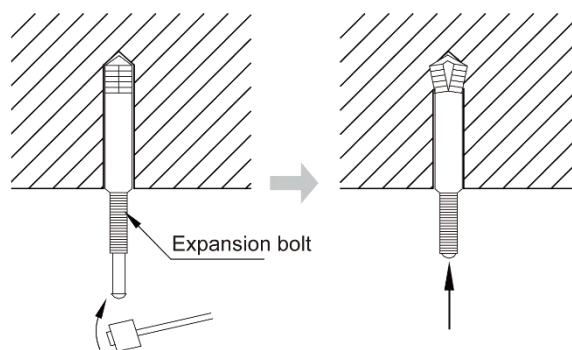

Fig 4
- 2) Insert the M10 expansion bolt into the hole and then knock the nail into the bolt, as shown in Fig 4.